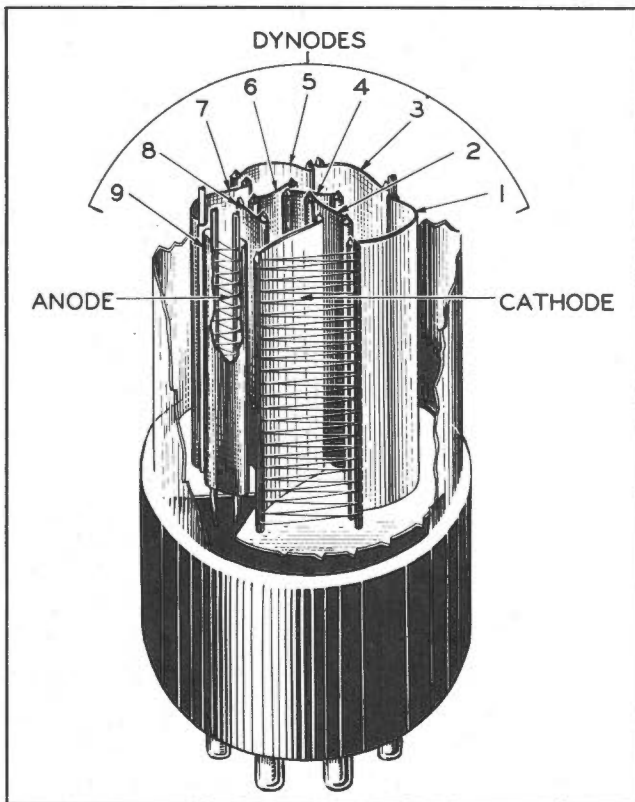

Figure 4-3. Type JAN-931-A Multiplier Photo Tube—Cut-away View
a. Hash frequencies are generated in the multiplier phototube V1. (See fig. 4-3.)